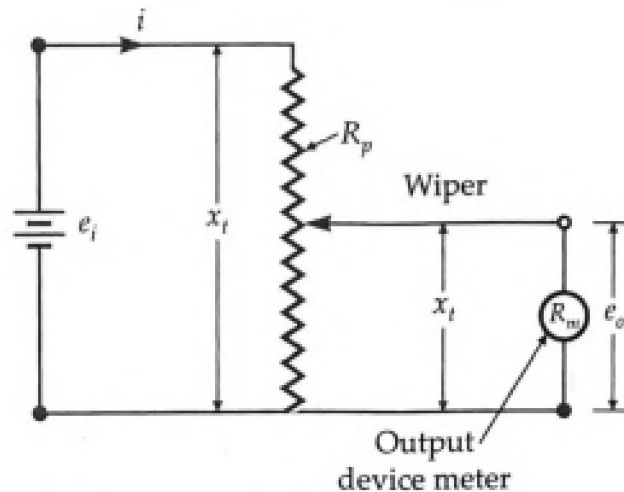

Fig 2.6 Loaded Potentiometer
- ❖ Let us consider the case of a translational potentiometer as shown in Fig. 2.6 Let the resistance of a meter or a recorder monitoring the output be R_m .